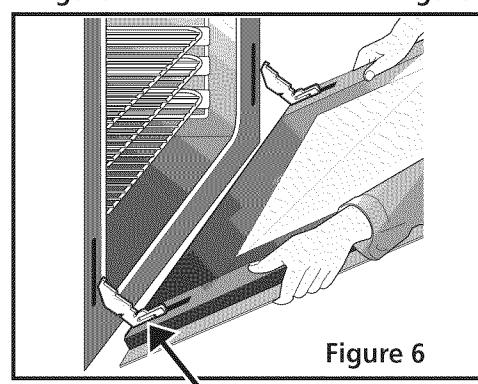

Figure 6
3. Grasp the door by the sides, pull the bottom of the door up and toward you to disengage the hinge supports. Keep pulling the bottom of the door toward you while rotating the top of the door toward the appliance to completely disengage the hinge levers (Figure 6).